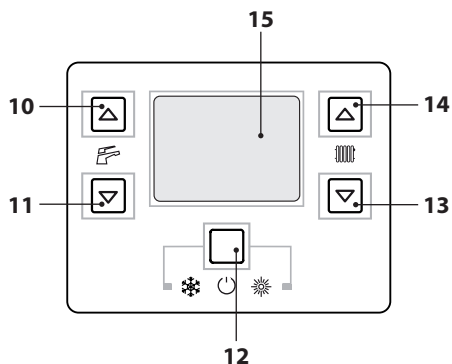

Figure 2.3
- Press key 12 for 2 seconds until both symbols  and  appear on the display (Figure 2.3).